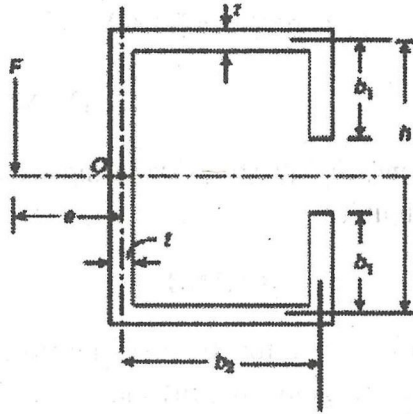

Figure 1
7. Figure 1 shows a section of a beam subjected to shear force F . Locate the position of the shear centre as defined by e .